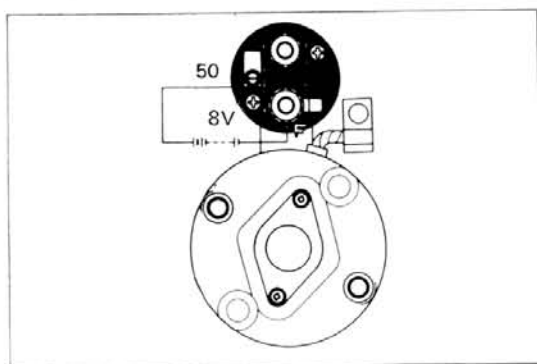

Fig. 6-15 Pull-in Coil Test
- Test the pull-in coil motion of the magnetic switch. Connect the test leads onto the "50" terminal and the "F" terminal as shown in figure 6-15. The magnetic switch should pull in the plunger strongly with 8 volts.